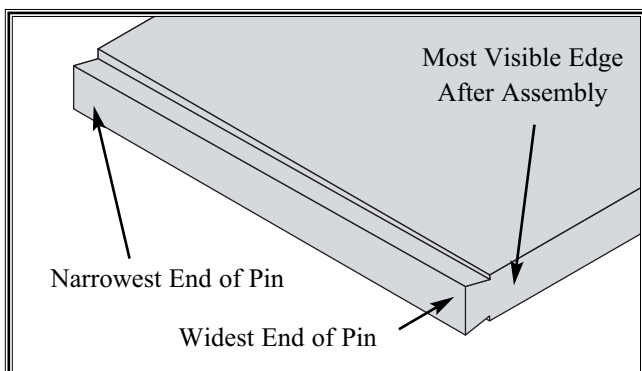

Figure 2. Illustration of pin taper.
- Position the workpiece so the widest end of the pin is routed on the most visible edge (Figure 2).